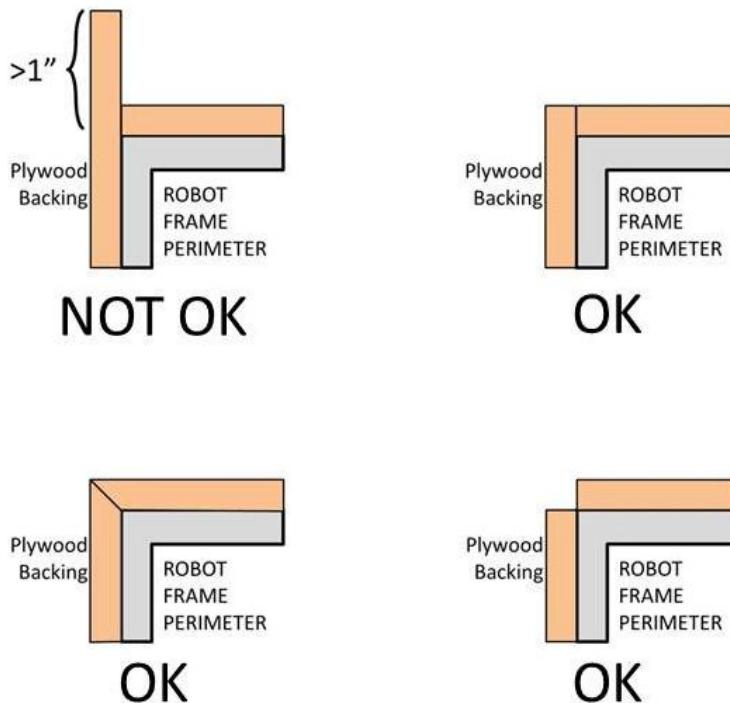

Figure 9-4 Hard Parts of BUMPER Corners
- B. hard BUMPER parts allowed per R24-A, -E, -F, and -G must not extend more than 1 in. (~25 mm) beyond the FRAME PERIMETER (measured as shown in Figure 9-4).